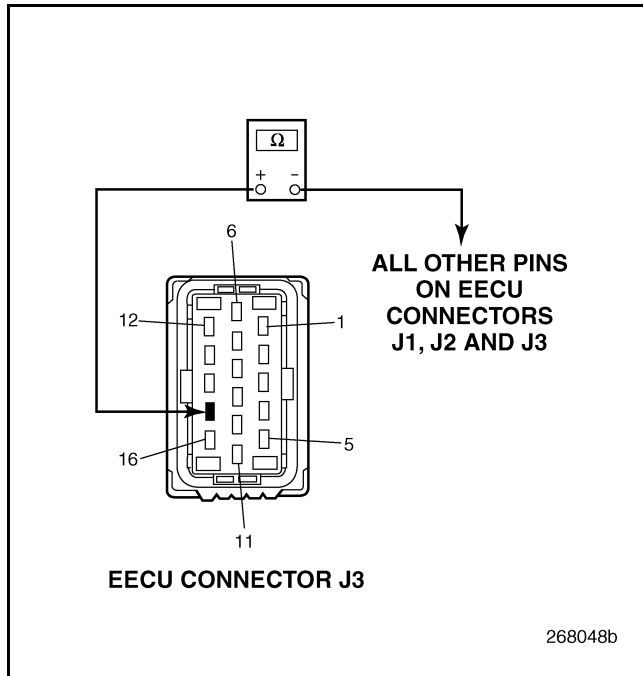

Figure 762
4. Check for continuity between the EECU harness connector J3 pin 15 all other pins on EECU connectors J1, J2 and J3 (see Figure 762).